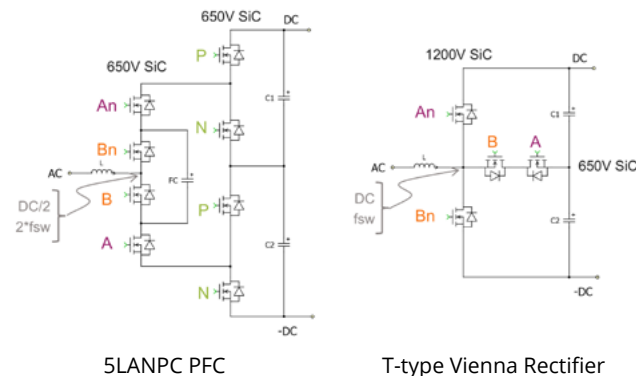

Figure 2: 3-phase topologies for AI server power supplies.
Since the input voltage for the PSU reaches 3-phase territory, it is natural that the PSU's topologies also need to change accordingly. The T-type Vienna rectifier is a well-known 3-phase rectifier topology in industrial applications (Figure 2, right), which can be used in these PSUs as well. In the T-type Vienna rectifier, A-An and B-Bn are modulated during the AC's positive and negative respectively at a high switching frequency. Therefore, a 3-level voltage (DC/0 V/-DC) with a switching frequency component is applied to the PFC choke switching node. To enable this, 1200 V switches are required for connecting the switching node to the DC rails, while 650 V devices are needed for the back-to-back switches implementation.
However, in the search for higher powered PSUs, an emerging alternative for 3-phase rectifiers in AI server PSU is the 5-level active neutral point clamped (5LANPC) PFC, in which efficiency and power density are the key highlights. Figure 2 (left) presents the 5LANPC topology in which the stacked devices on the DC side (P/N) are switched according to the AC polarity. The flying capacitor (FC) component of the 5LANPC phasing the AC side implements 180 degrees out-of-phase PWM (A-An versus B-Bn) similar to a single-phase 3-level FC PFC. As a result, all the devices required for the topology implementation are rated for 650 V. In addition, the switching node voltage is half of each of the DC capacitor voltage, at double of the switching frequency. Therefore, the PFC choke volt-second is 4 times lower than that of the T-type Vienna PFC. The consequent size reduction, together with an expected performance improvement, makes the 5LANPC a very good topology for AI PSUs, which can be evaluated using the REF_18KW_HFHD_3P_PSU. The FC modulation in the 5LANPC choke provides a ripple reduction as well, which enables a reduction in the differential mode EMI filtering effort.